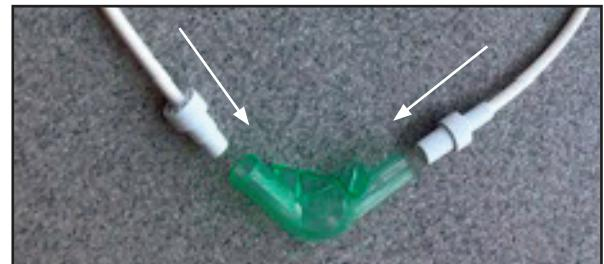

Figure 7
2. Install the mask on the circuit per Figure 7. It does not matter which line goes into which side of the mask.